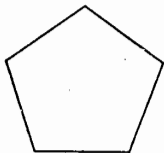

Fig. 47
40. A *Regular Pentagon* has five equal sides and five equal angles. Fig. 47.